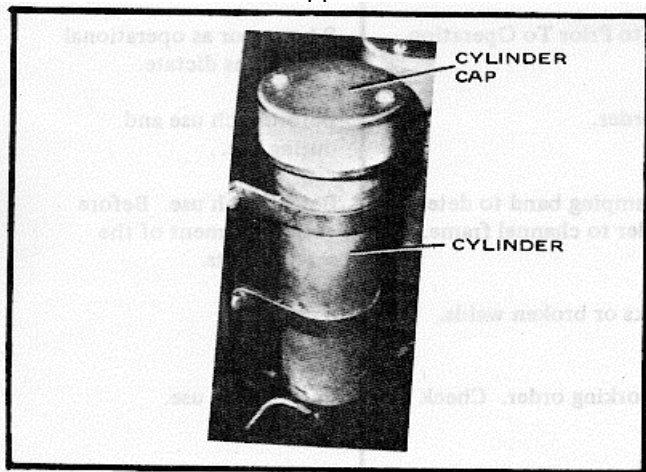

Figure 5-1. Purification Cylinder
a. AIR PURIFICATION CYLINDERS (See Figure 5-1 and Figures 7-2, 7-3). The cartridges shall be changed in accordance with the number of recorded operating hours (see Table 5-1). To change the cartridges on cylinders, proceed as follows.